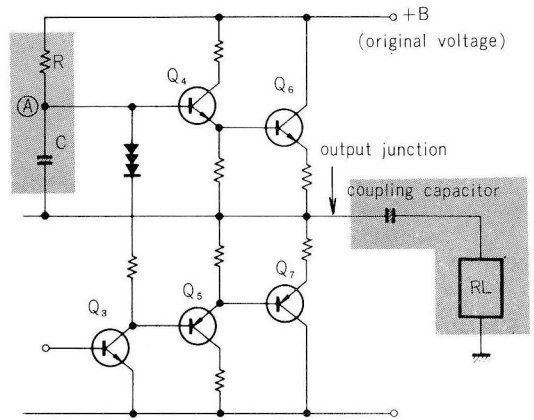

Fig. 1
A common drawback of conventional SEPP amplifier circuits is the occurrence of pulse noise when the power is turned on. The cause of this noise is the timing of the DC voltage distribution through the junctions in the circuit. The most important junction in this respect is the inner side of the output coupling capacitor. Fig. 1 shows a simplified, typical SEPP output stage. When the power is turned on, the original B voltage surges immediately, and this voltage simultaneously appears, through R at point (A). The time constant of this C/R network cannot be made as large as desired because it is part of the signal path. Therefore, voltage B appears almost instantly at the base of Q₃, causing a sudden high pulse to appear at the junction point, and passing through the output coupling capacitor to the loudspeaker. This causes the starting pulse noise.